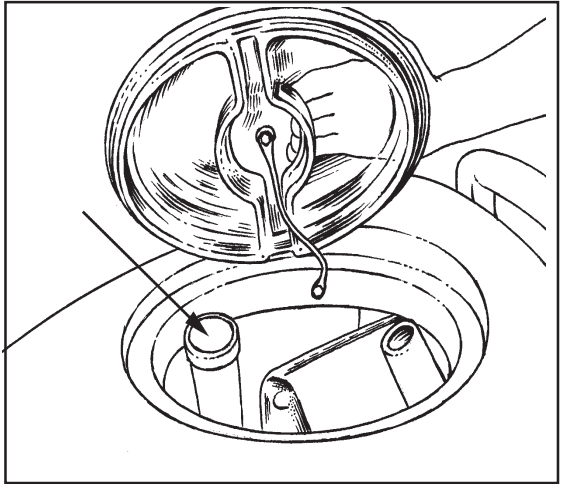

Figure 24
5. Make sure the screen filter over the vacuum motor is clean and in position. See figure 24.